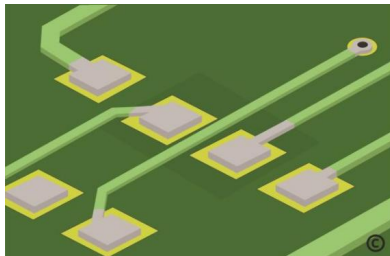

Fig 8.12
5. Perform a visual inspection for color match and adhesion per the IPC TM-650 specifications (**Fig 8.12**)